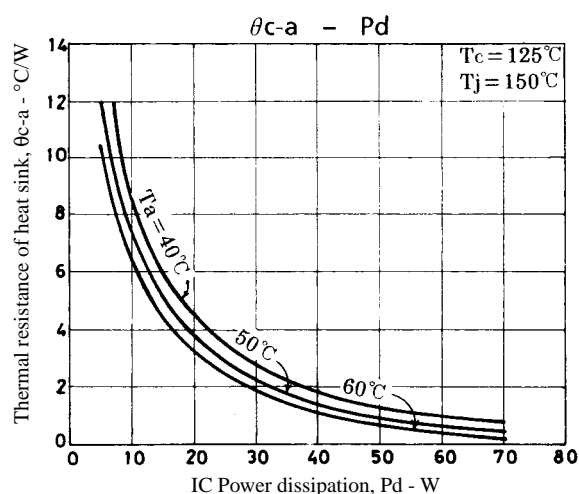

Figure 3. STK4112II θc-a – Pd
Figure 3 shows the relation between Pd and θc-a given from (1) and (3) with Ta as a parameter.
The thermal resistance of a heat sink is obtained from Figure 3.